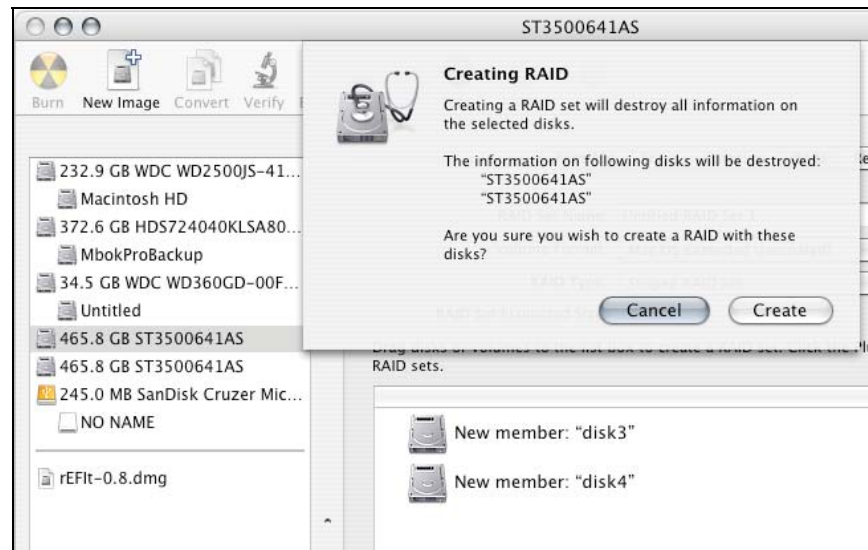

Figure 14: Creating a new RAID volume
10. After reviewing the options you selected, click on the *Create* button to initialize the new RAID volume (see Figure 14).